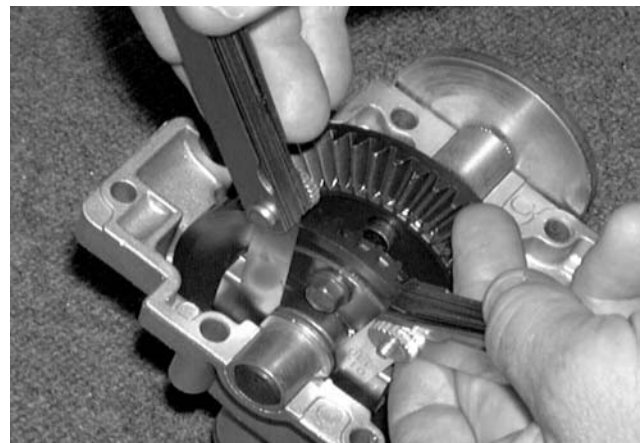

**Figure 8-65.**
15. Set the upper drive shaft assembly into the upper transmission housing. See Figure 8-65.